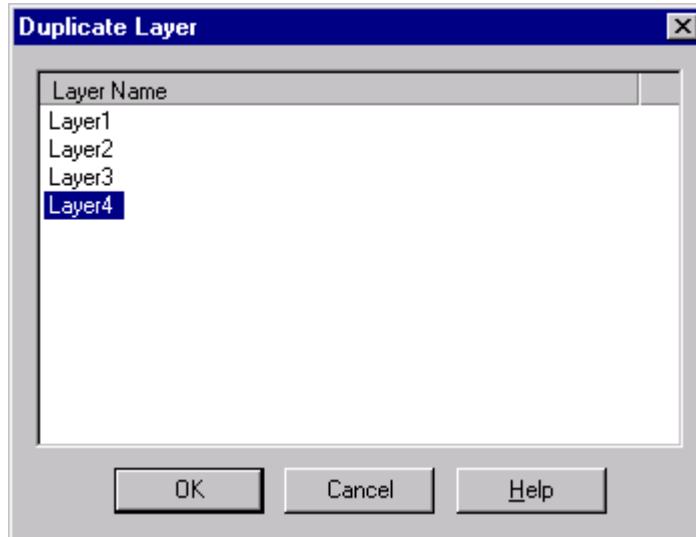

Figure 7-4: Duplicate Layer Dialog Box
1. On the Format menu, select Layer > Duplicate Layer. The Duplicate Layer dialog box appears (Figure 7-4).